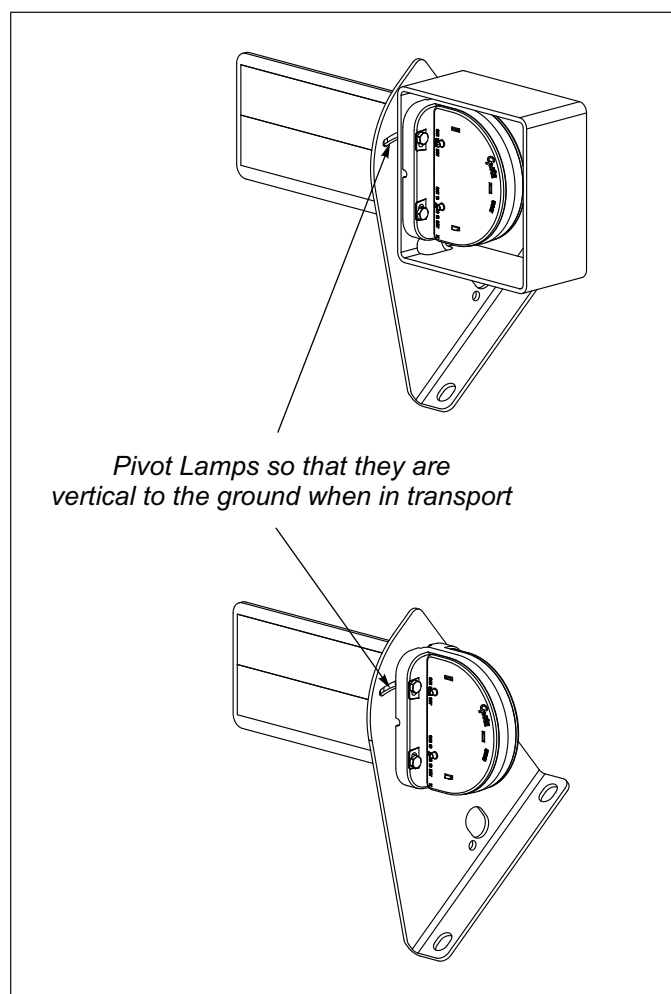

Figure 2-3: Lamp Bracket Adjustment
10. Adjust the Lamp Angles so Lamps are vertical with the machine, when raised in the transport position. **See Figure 2-3.**